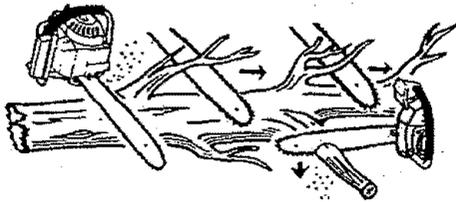

Figure 37
- Start at the base of the felled tree and work towards the top cutting branches and limbs. Remove small limbs with one cut. Figure 37.